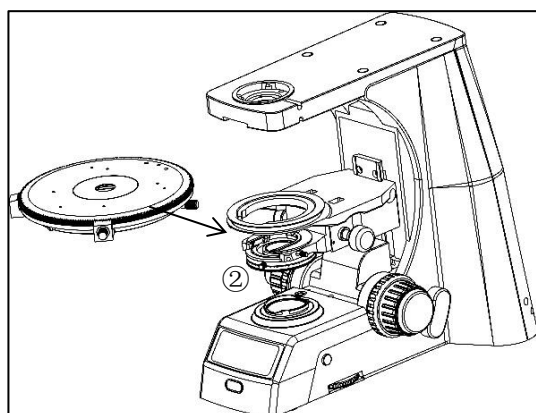

Figure 3
**4-2-2 Install the polarizing platform (figure 3, 4)**
- ★ The polarizing flat station is installed according to the path of the Sequence Number②of Figure 3, first the center of the stage hole is roughly aligned with the center of the bracket circle, and then the stage is placed down to the bracket positioning ring.